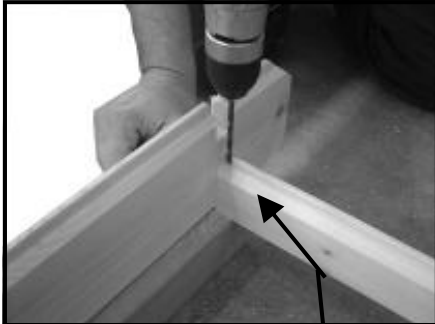

Fig D5
- Cut notches out of the tongues on the **A1** logs (fig D5 & D6) at centre marks (previous steps) and drill through for fixing to the bearers .
- Also measure length at the centre of the building from wall to wall (**A1 to A1**) to ensure correct length before fixing to joists with 1x 80mm screw (fig D5 & D5) at each bearer .